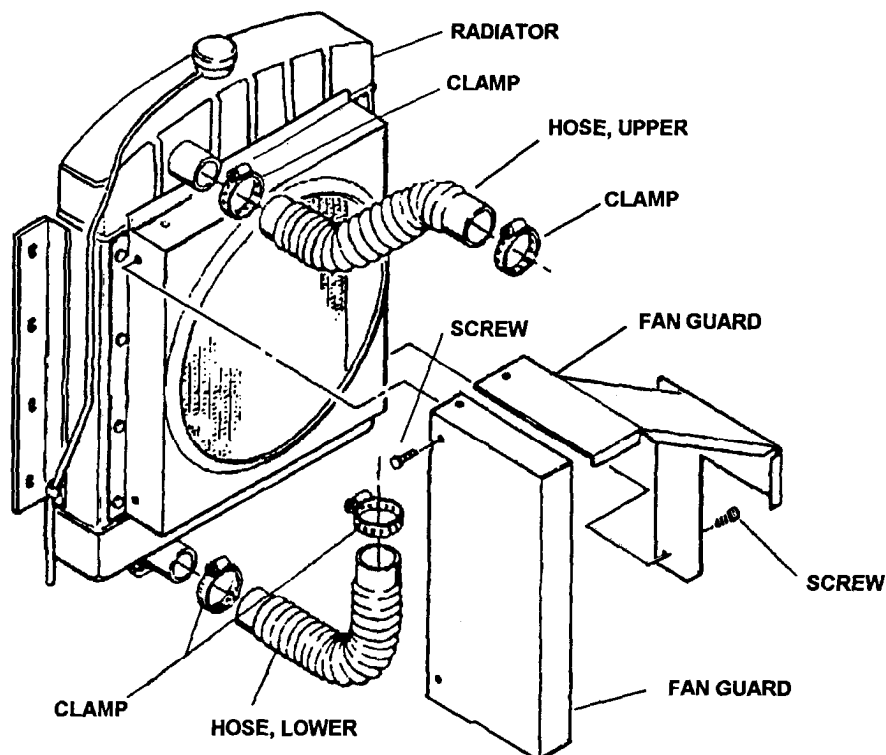

Figure 4-24. Radiator Hose Replacement
- (1) Remove screws and fan guard (Figure 4-24).
- (2) Refer to step (2) (b) in paragraph 3-27 and drain the radiator.
- (3) Loosen damps and remove defective radiator hose (Figure 4-24).
- (4) Clean radiator and engine hose connection points.
- (5) Remove clamps from defective hose and place on replacement.